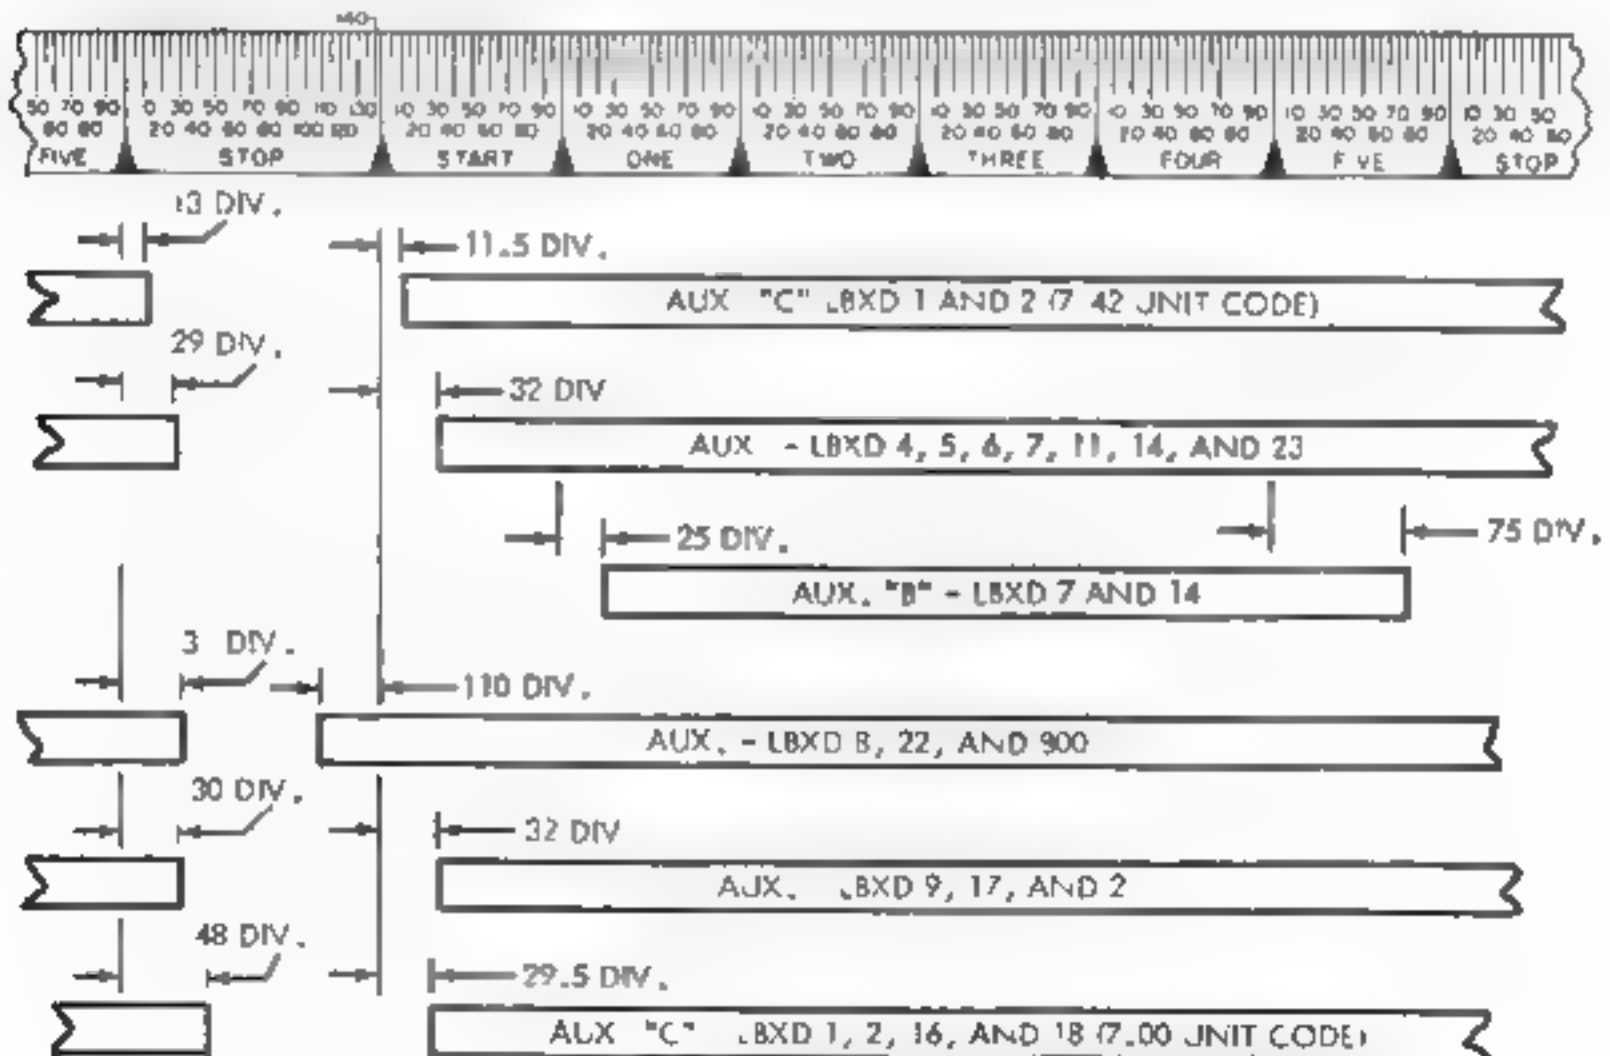

FIGURE 7. DISTRIBUTOR AUXILIARY CONTACT REQUIREMENTS
(3) Distributor Auxiliary Contacts - 5 and 8 Level Units (See Figure 7)